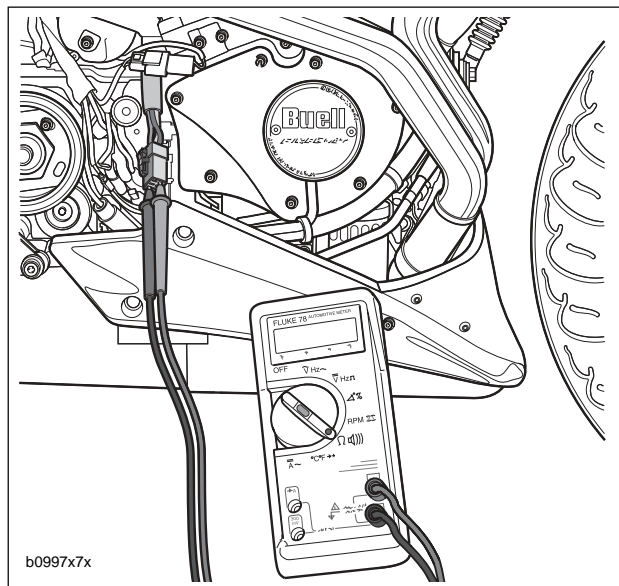

Figure 7-27. Check for Stator Resistance
4. See Figure 7-27. Remove ground lead. Check resistance across stator sockets 1-2, 2-3 and 3-1.